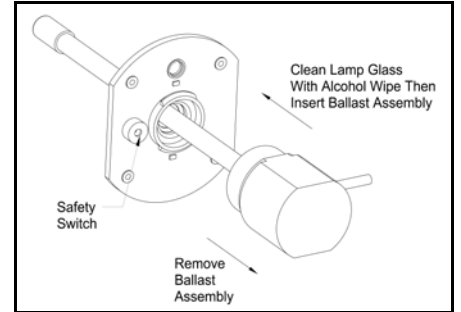

Figure 7
- Wipe off the lamp glass with the supplied alcohol wipe. Then insert the lamp through the center hole of the mounting base. (See Figure 7) The power cord must be 90° to the viewport hole on the mounting base.
2. Remove the ballast assembly and lamp from the mounting base. (See Figure 7)
7. Slide the lamp through the hole in the mounting base. (See Figure 7)